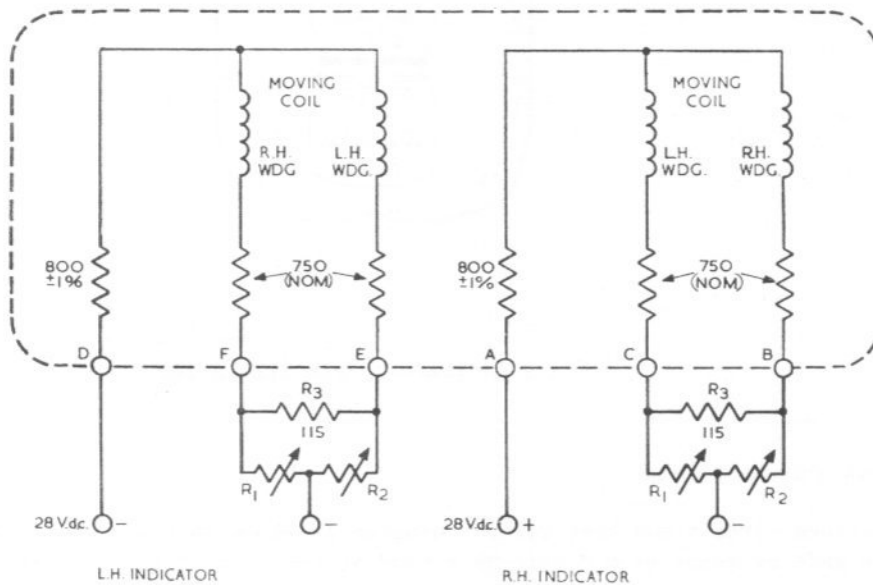

Fig.2 Circuit and test circuit diagram
8. Set the decade resistance boxes R1 and R2 each to 500 ohms and then connect the indicator to the test circuit shown in fig.2 for the left-hand indicator. Set R3 to 115 ohms.